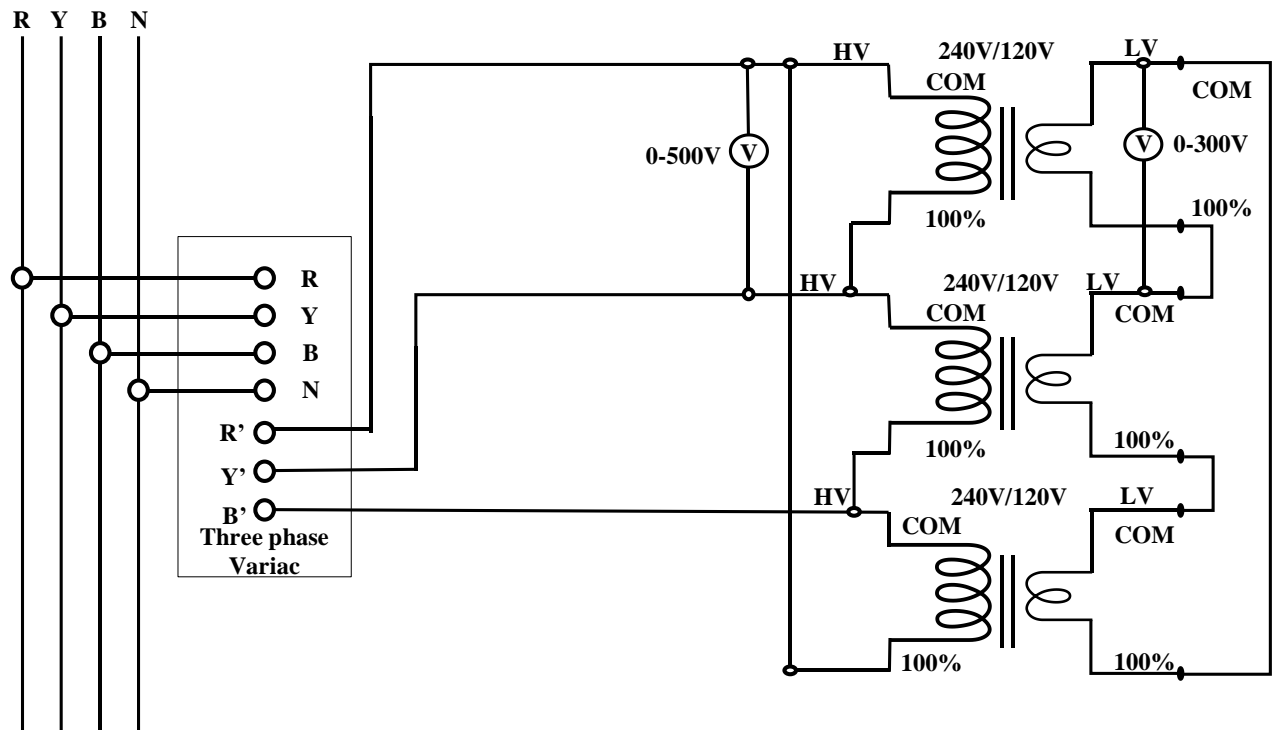

Fig 6: Delta-Delta configuration using three single phase transformer Lab set-up.
Similarly, for the wye-delta configuration of Figure 6, the secondary voltage is
1. Make the connections as per the circuit diagram given in Fig. 6.